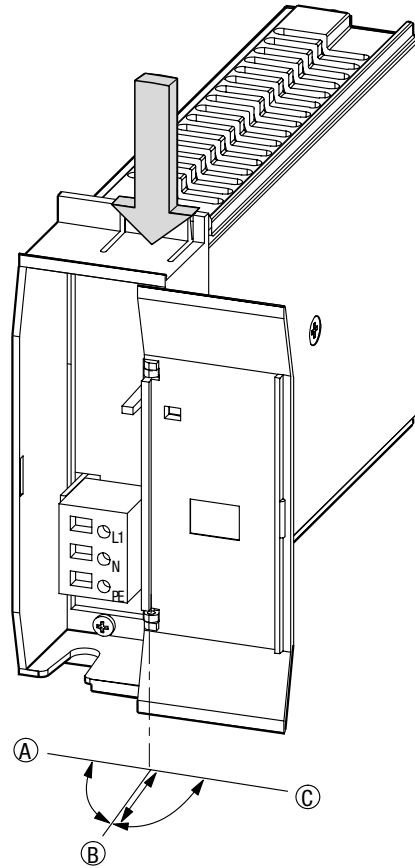

Figure 7: Installing/removing cards. The PS 416-POW-400 power supply card as an example
- ▶ Unlock the spring lug by pressing the lever (see arrow in Figure 7).